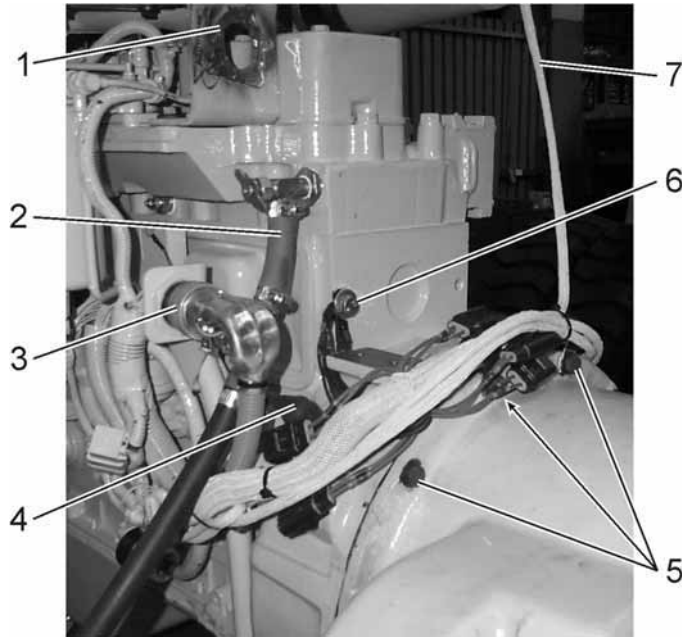
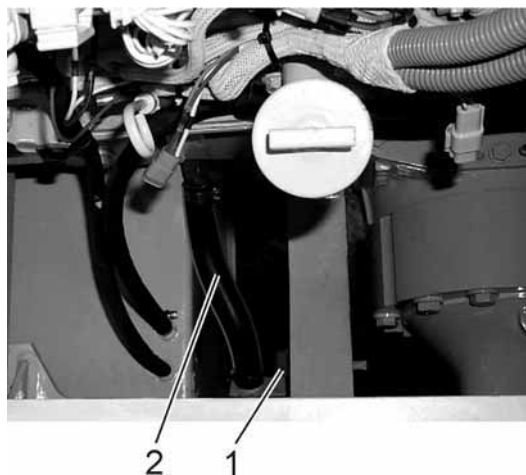

Fig. 12.6. Engine Disassembly Points (515G).
Fig. 12.7. Engine Oil Drain Hose RH Side (520G)
19. Disconnect OEM wire harness plug (3, Fig. 12.6).
20. Remove wire from the engine tachometer sensor (4).
21. Remove ground wires (6) from the engine block.
22. Remove wire from the air cleaner service warning light switch (7).
23. Loosen the clamp and remove cab heater supply hose (2).
24. Remove bolt (1, Fig. 12.7) and attach the oil drain hose (2) to engine with the wire.